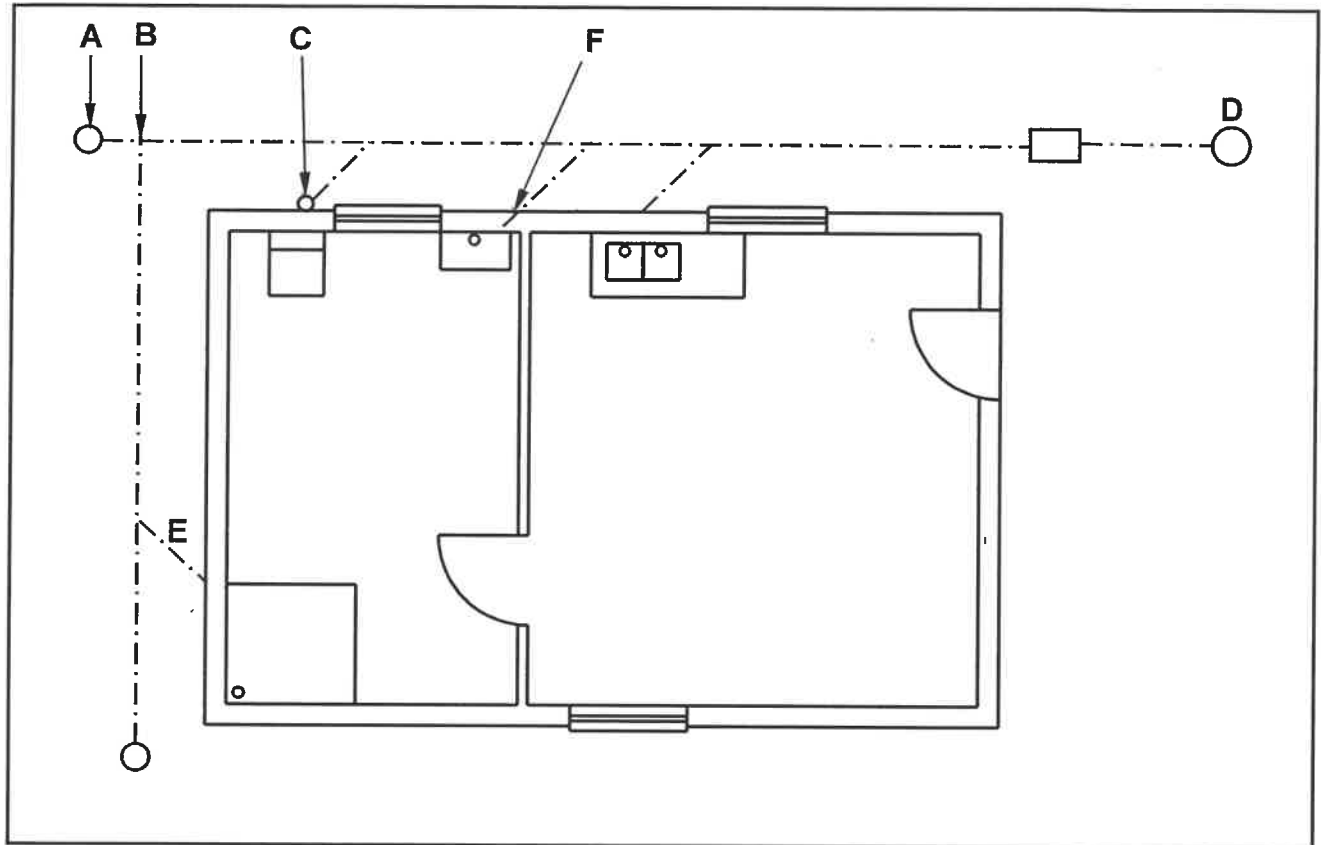

FIGURE 6.7
- 6.7 FIGURE 6.7 below shows the incomplete drainage plan of a building.